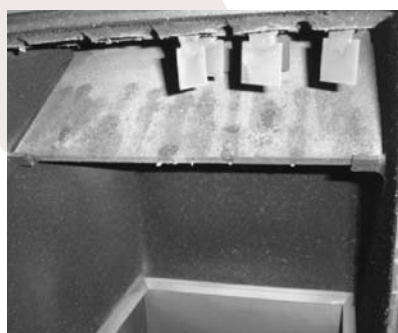

Figure 11-9: Combustion chamber baffle
- Disconnect the three plugs from the left side of the burner. Refer to Figure 11-9.
Re-connect the three plugs to their corresponding sockets on the left side of the burner. Ensure that each plug is fully pushed home until the small catch clicks into place. Refer to Figure 11-9.